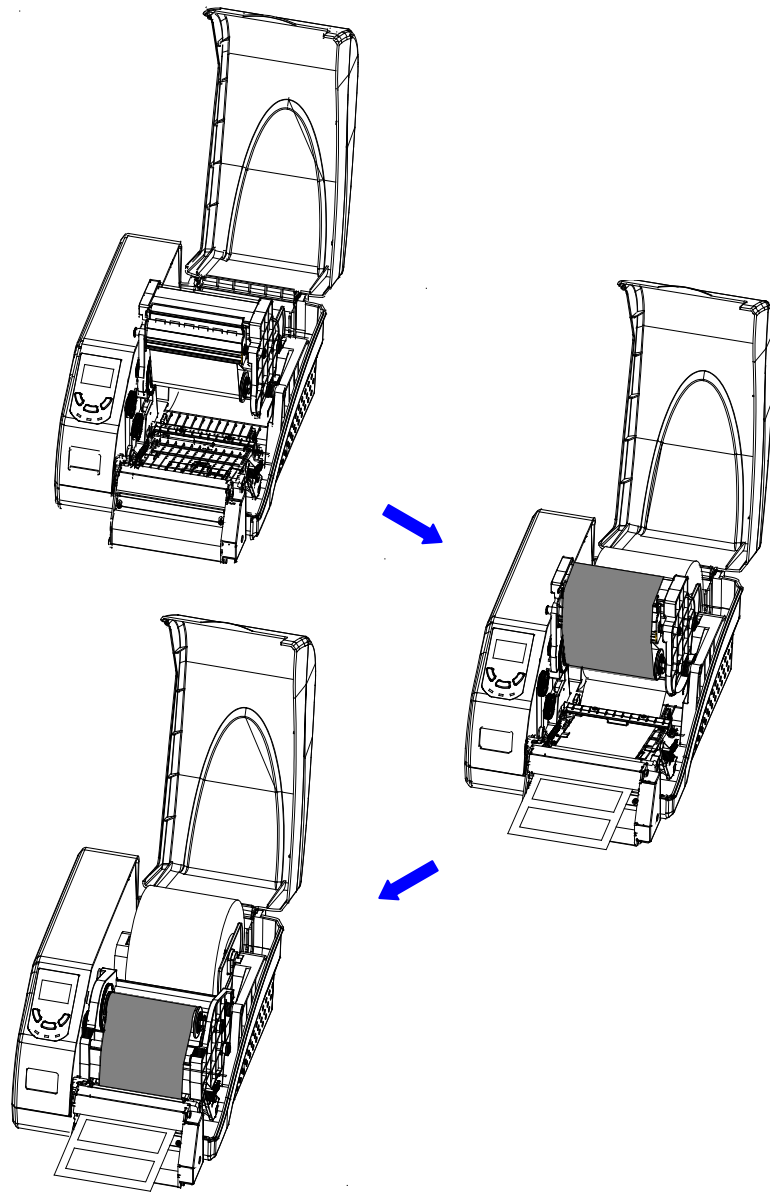

Figure 6-6
5. Load media as shown in Figure 6-6. The Rotary Cutter is now ready to use.